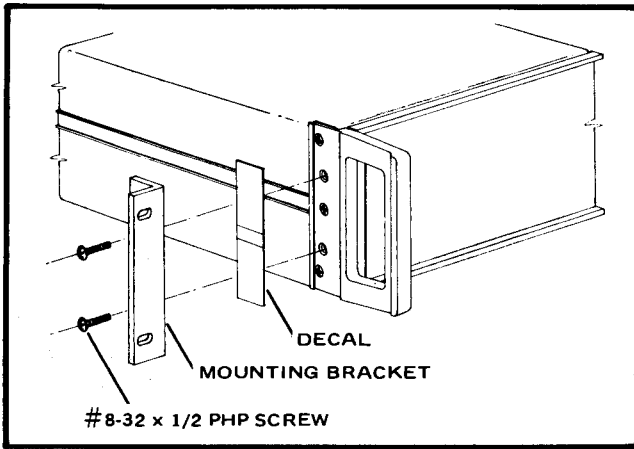

Figure 6-2. RACK MOUNTING BRACKET INSTALLATION
- b. Peel the decal shown in Figure 6-2 from each front side panel.
- m. Install the mounting brackets shown in Figure 6-2 on the outer front side panels. Use the # 8-32 x 1/2" PHP screws provided in the kit.